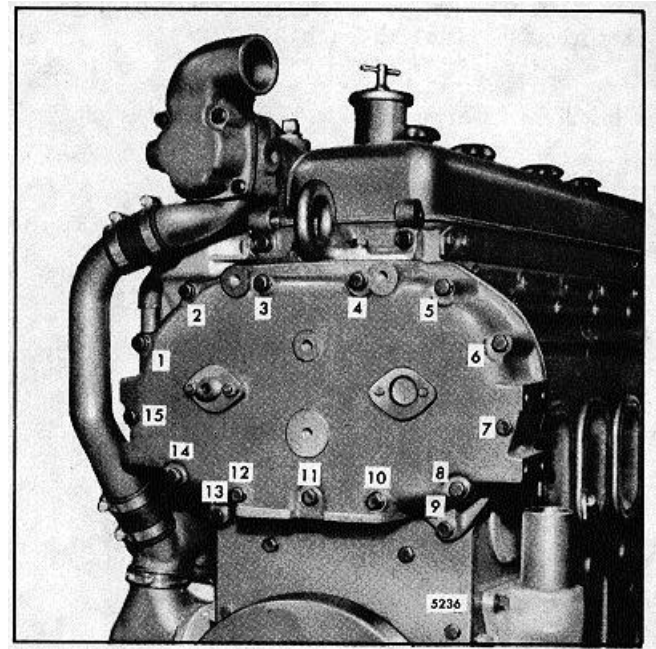

Fig. 2. Balance Weight Cover Bolt Tightening Sequence
3. Refer to Fig. 2 and tighten the bolts to 25-30 lb-ft (34-41 Nm) torque.